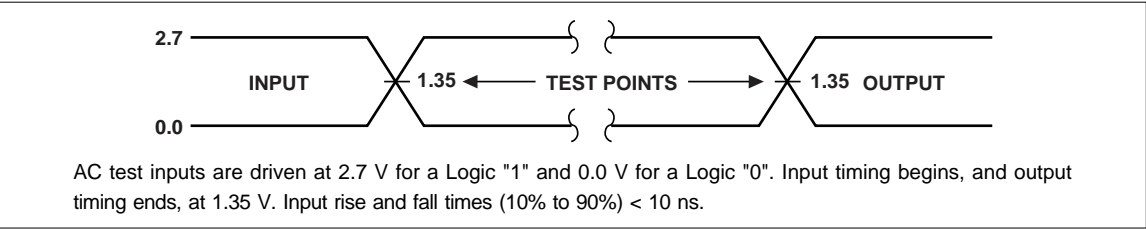
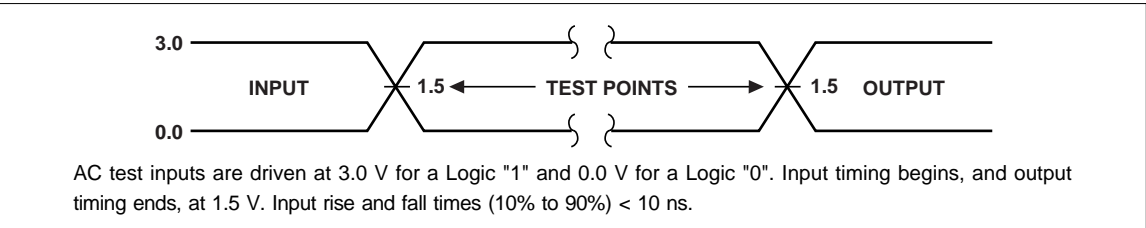

Fig. 12 Transient Input/Output Reference Waveform for $V_{cc} = 2.7$ to 3.6 V
Fig. 13 Transient Input/Output Reference Waveform for $V_{cc} = 3.3 \pm 0.3$ V
1. See AC Input/Output Reference Waveform (Fig. 12 and Fig. 13) for maximum allowable input slew rate.